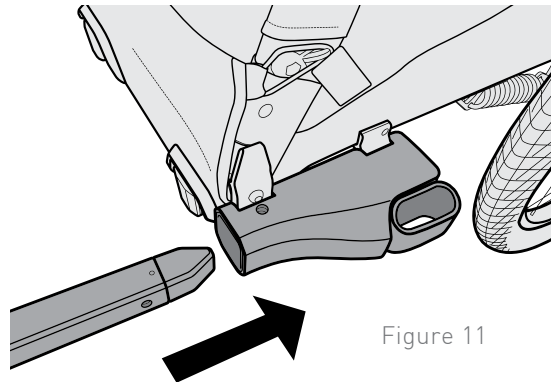

Figure 11
1. Slide the tow bar into the Quick Receiver until the primary retaining pin engages with the tow bar (Figure 11).